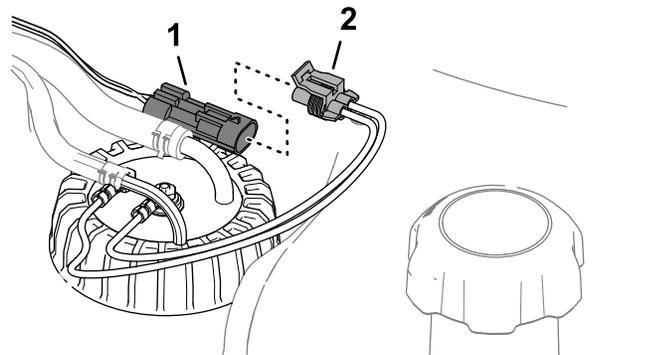

Figure 89
3. Remove the 2-socket connector of the fuel-sender harness from the 2-pin connector of the machine wire harness (Figure 89).